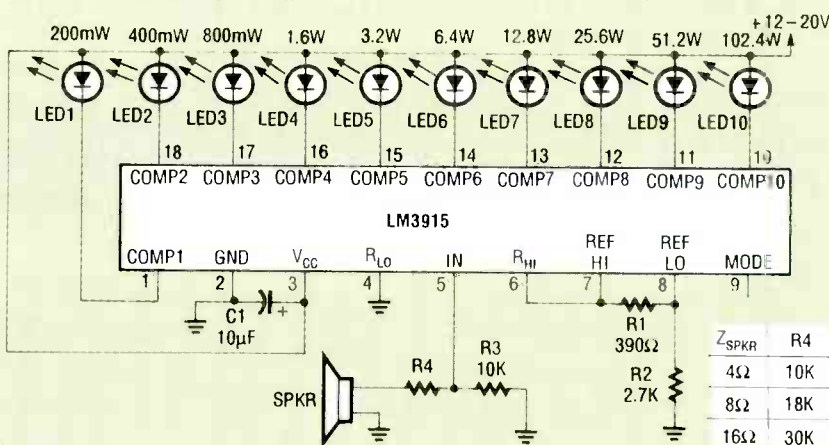
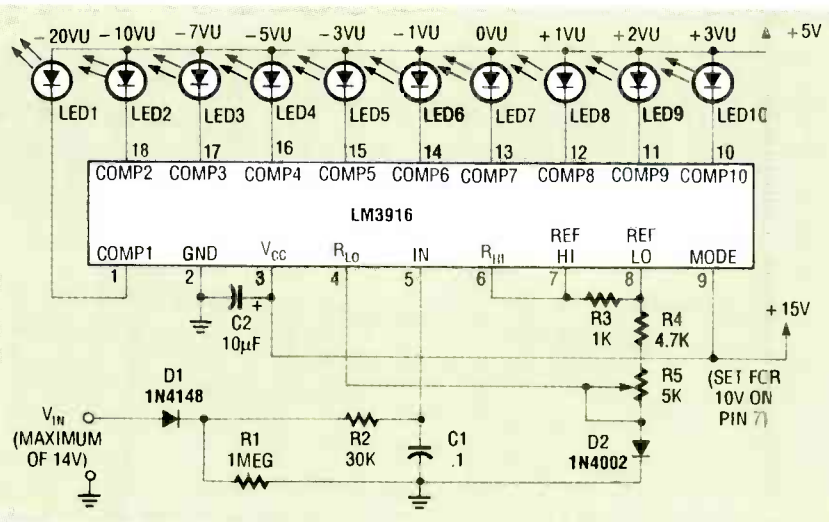
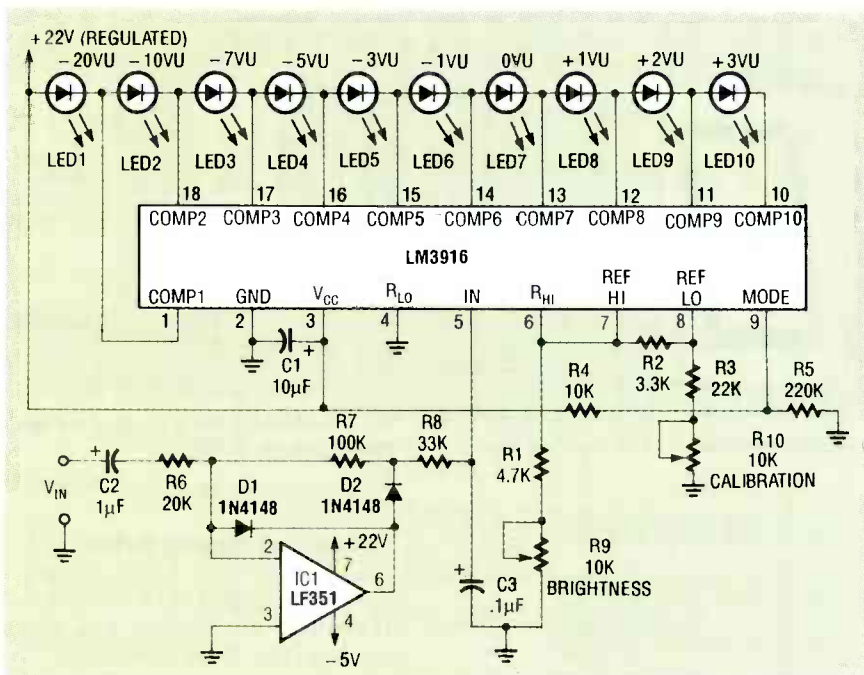

FIG. 14—A SIMPLE AUDIO POWER METER.
FIG. 15—A SIMPLE VOLUME-UNIT (VU) METER.
FIG. 16—A PRECISION VU METER with low current drain.
Figure 14 shows an LM3915-based audio power meter. Pin 9 is left open for dot mode, and R1 equals 390 ohms, for an LED current of 30 milliamps. The range of the audio power meter is 200 milliwatts–100 watts. A better approach is to half-wave rectify the signal on the input and feed in the resulting DC, as shown in the VU-meter circuits of Figs. 15 and 16.
Figure 15, a simple volume-unit (VU) meter, uses an LM3915 in bar mode; the signal at the input is rectified by D1 and filtered by R1–R2–C1, with D2 compensating for the forward drop of D1. Figure 16, a precision VU meter offering low current drain, uses an LM3916, with the combination of IC1–D1–D2 acting as a precision half-wave rectifier.